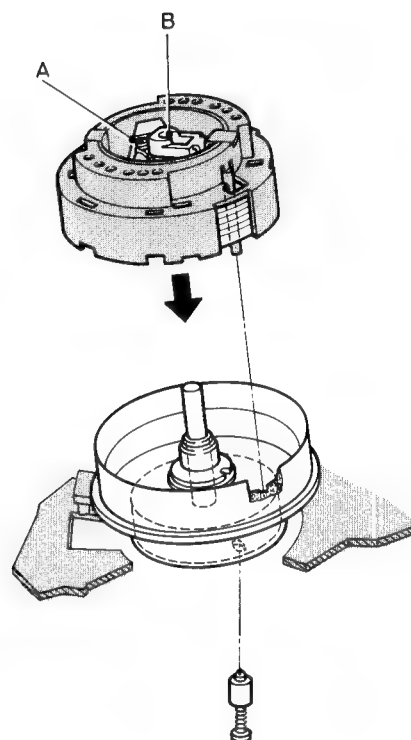

Fig. 1-5
- Push the locking pin for the rotor (one is supplied with each service replacement head disc) through the bottom hole of the scanner motor, line it up with the hole in the rotor by rotating the head disc, apply enough pressure to snap it home (Fig. 1-5).
- Press down the head disc in the centre B (Fig. 1-5) with a force of 1 N (centre of the protective cover).